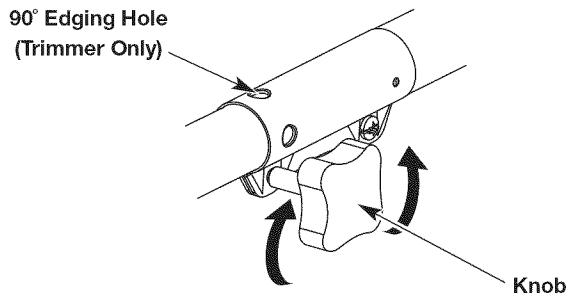
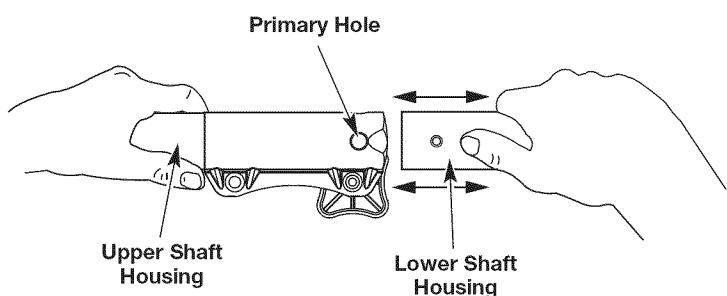

Fig. 1
Fig. 3
1. Turn the knob counterclockwise to loosen (Fig. 1).
2. While firmly holding the attachment, push it straight into the coupler until the release button snaps firmly into the primary hole (Fig. 3).
3. Turn the knob clockwise to tighten (Fig. 1).
**CAUTION:** Before operating the unit, make sure the release button is fully snapped into the primary hole (Fig. 3) and the knob (Fig. 1) is securely tightened.
For decorative edging with a string trimmer attachment, lock the release button into the 90° edging hole (Fig. 1).
3. While firmly holding the upper shaft housing, pull the attachment straight out of the coupler (Fig. 3).